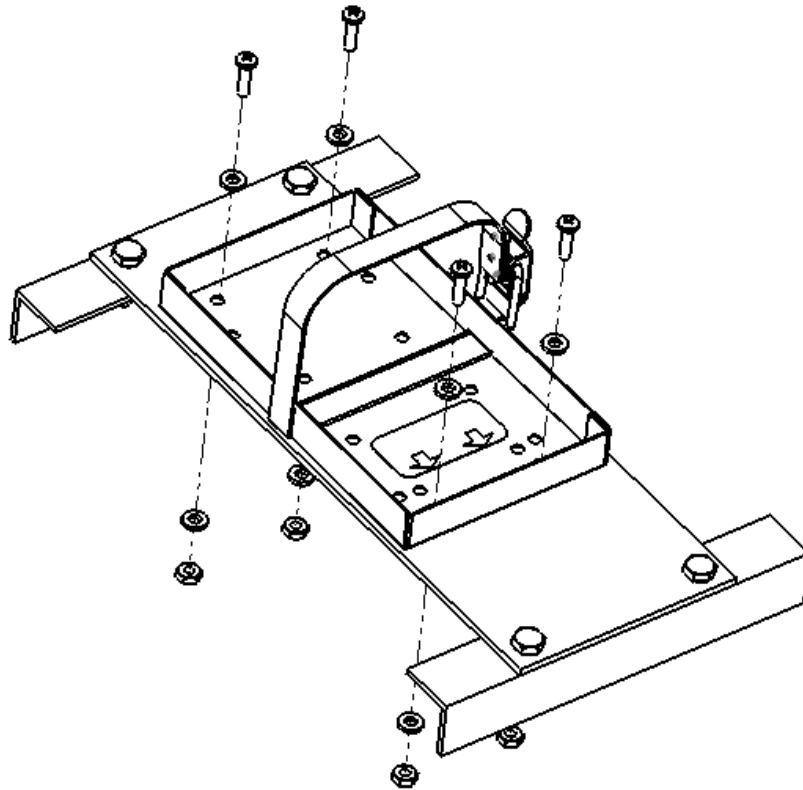

Figure 13 Typical Mounting Tray Installation
- 1) See Figure 13 Typical Mounting Tray Installation.
- 5) Install the mounting tray as shown in Figure 13 (installation kit: 455-7423).